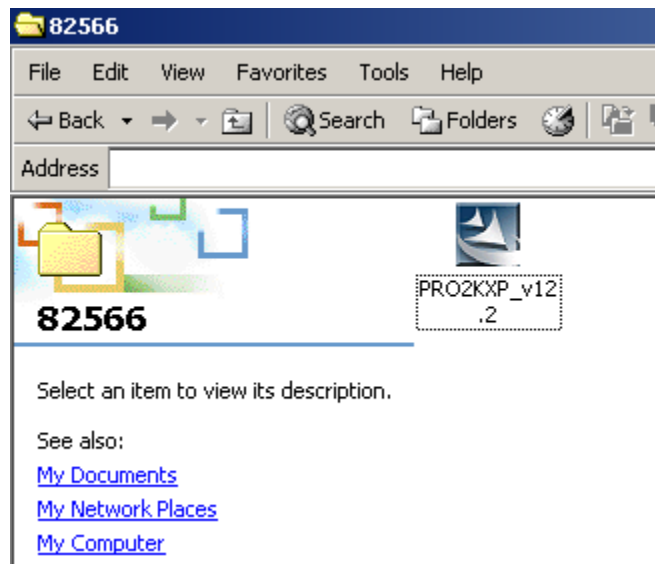

Figure 7-20: Intel® 82566 Device Driver Startup Icon
Step 8: A window containing the Intel® 82566 driver startup icon appears. See **Figure 7-20**.
Step 9: Double click the Intel® 82566 driver startup icon in **Figure 7-20**.